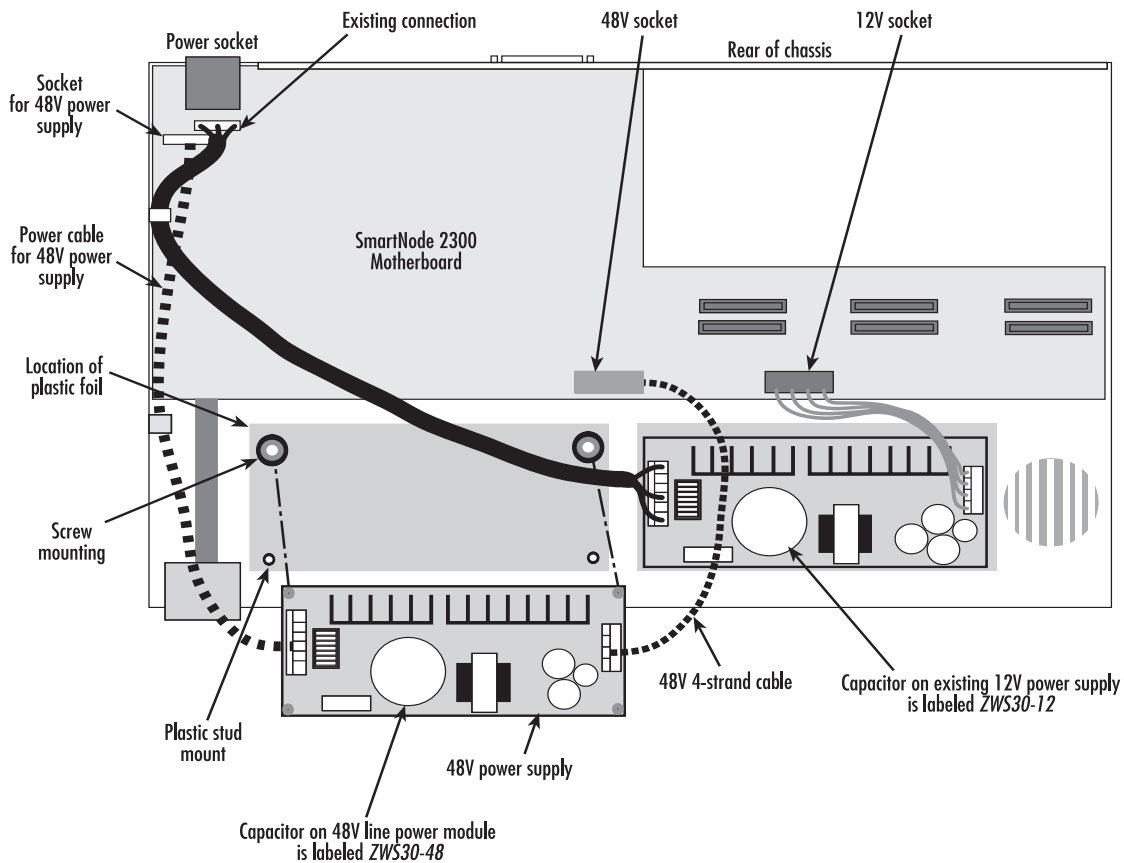
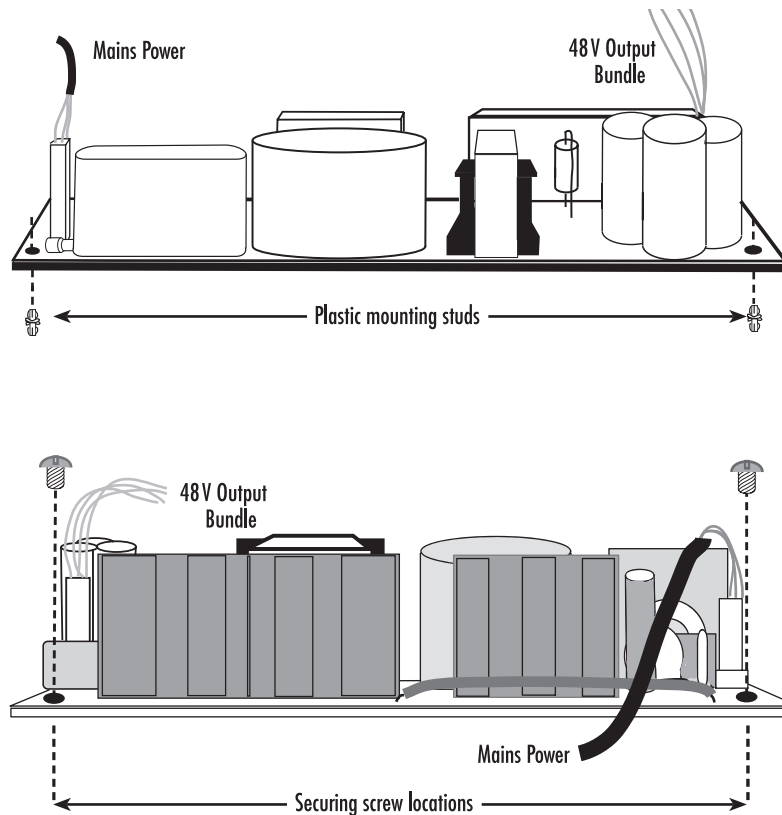
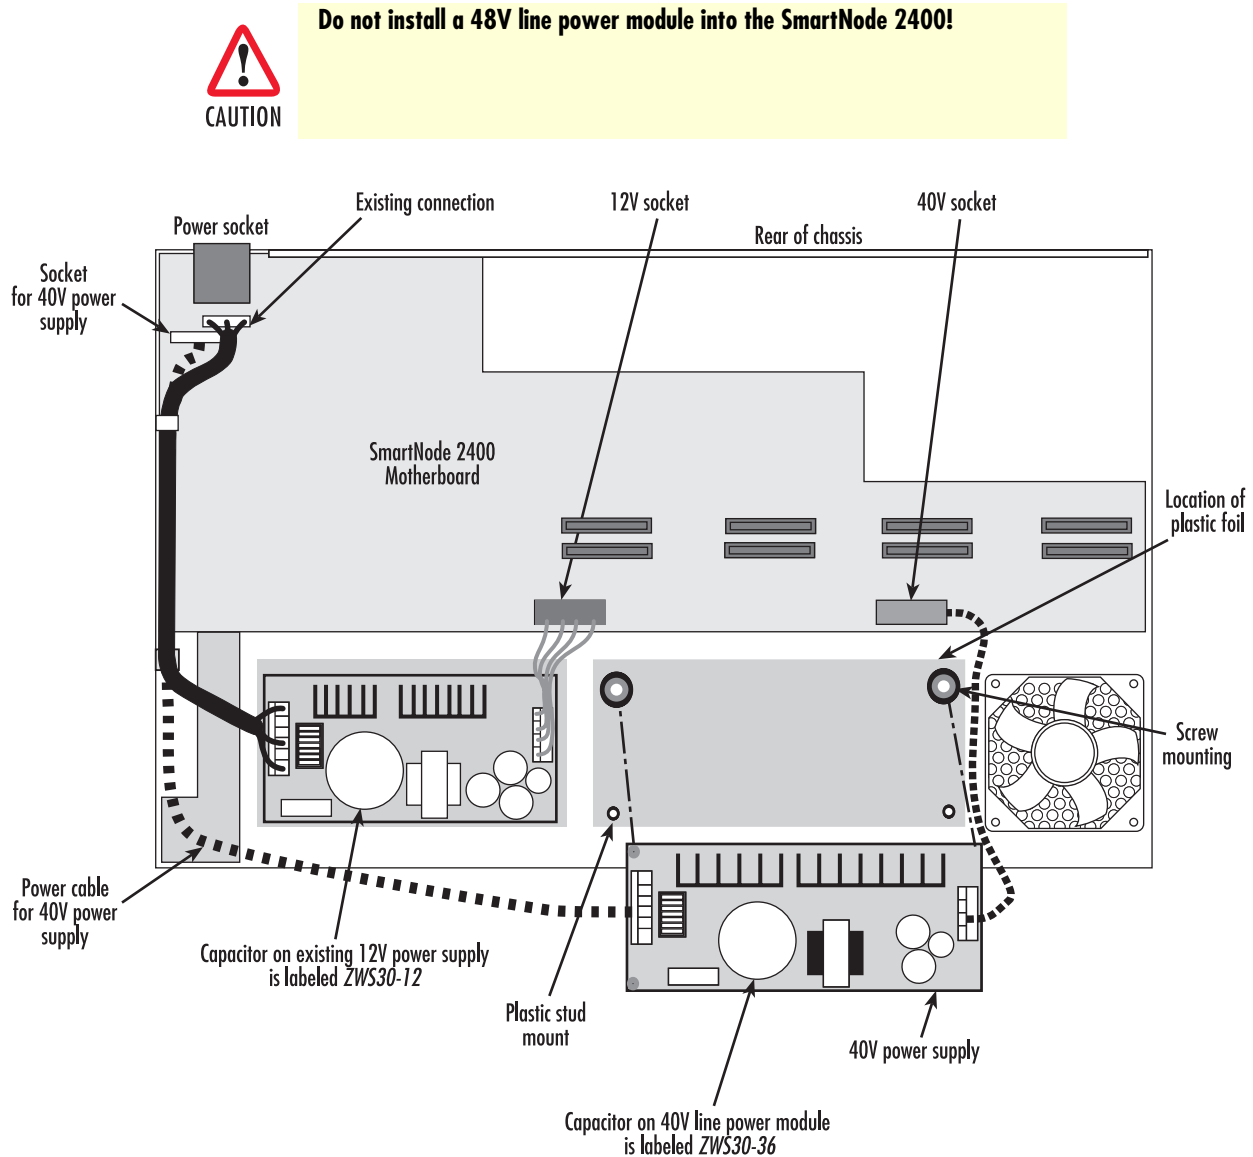

Figure 76. Internal 48V line power module and 12V power supply module locations in SmartNode 2300
Figure 77. Fixing points: internal 48V (or 40V) line power module
Figure 78. Internal 40V line power module and 12V power supply module locations in SmartNode 2400
The 48V line power module is mounted inside the SmartNode 2300, next to the existing 12V power supply. You should not move the 12V power supply module from its installed location (see figure 76 for 12V power supply location).
Note The 12V and the 48V line power modules are very similar in appearance. The 48V module is labeled *ZWS30-48* on the large electrolytic capacitor (see figure 76).
If you look at the exposed SN2300 chassis, you will see the motherboard and the 12V power module that is already installed (see figure 76). (The figure shows the general arrangement of the chassis-mounted components only, with little or no component details. The IC-4BRV card is omitted for clarity). To the left of the existing 12V power module are two screw holes tapped into dimples, and two smaller holes. These four holes are for mounting the 48V line power module (see figure 77).
3. Insert the plastic mounting studs into the line power module, one into each of the two corner holes that are on the opposite side to the finned heat sinks (see figure 76 on page 118). Insert them from below.
5. From above, insert the screws into the module, one into each of the two holes at the corners of the heat-sink side. Screw them home so that the screws pass through the foil and secure the module onto the SmartNode chassis dimples. See the lower picture in figure 77 on page 119.
6. First insert the white 4-lead 48V supply cable in the line power module's socket. Then connect it to the 48V socket on the motherboard. The plug is polarized so you cannot insert the sockets the wrong way round. See figure 77 on page 119.
The 40V line power module is mounted inside the SmartNode 2400, next to the existing 12V power supply. You should not move the 12V power supply module from its installed location (see figure 78 for 12V power supply location).
Note The 12V and the 40V line power modules are very similar in appearance. The 40V module is labeled *ZWS30-36* on the large electrolytic capacitor (see figure 78).
If you look at the exposed SN2400 chassis, you will see the motherboard and the 12V power module that is already installed (see figure 78). (The figure shows the general arrangement of the chassis-mounted components only, with little or no component details.). To the right of the existing 12V power module are two screw holes tapped into dimples, and two smaller holes. These four holes are for mounting the 40V line power module (see figure 77 on page 119).
3. Insert the plastic mounting studs into the line power module, one into each of the two corner holes that are on the opposite side to the finned heat sinks (see figure 78 on page 120). Insert them from below.
6. First insert the white 4-lead 40V supply cable in the line power module's socket. Then connect it to the 40V socket on the motherboard. The plug is polarized so you cannot insert the sockets the wrong way round. See figure 77 on page 119.